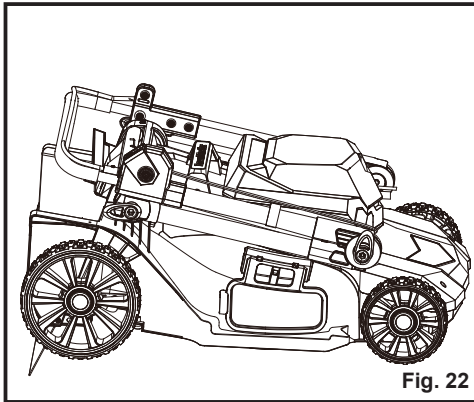

Fig. 22
- Fully loosen the handle locking knobs on the sides of the handle and fold the upper handle down (Fig. 22).